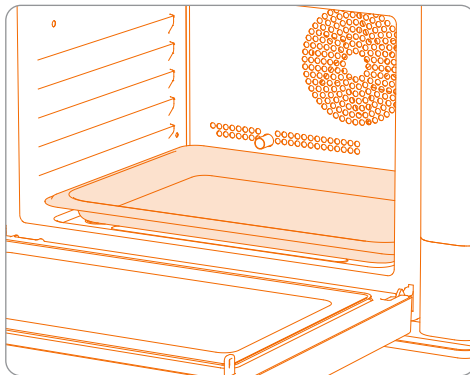

figure 2: pan placement during descaling
1. Remove all accessories. Put the solid pan on the bottom of the cavity so that the Descale drain outlet is protruding out over the edge of the tray to catch liquids. See fig. 2.